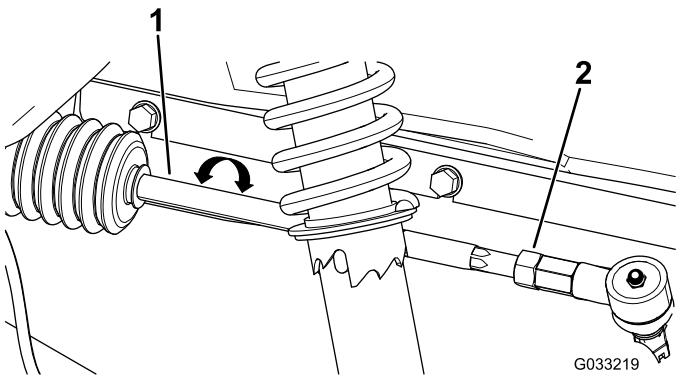

Figure 50
2. If the measurement does not fall within 0 to 6 mm (0 to 1/4 inch), loosen the jam nuts at the outer end of the tie rods (Figure 50).